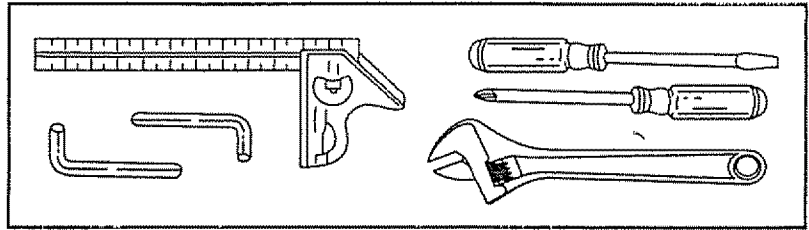

Fig. 1
■ Tools needed for assembly and alignment: (see figure 1)